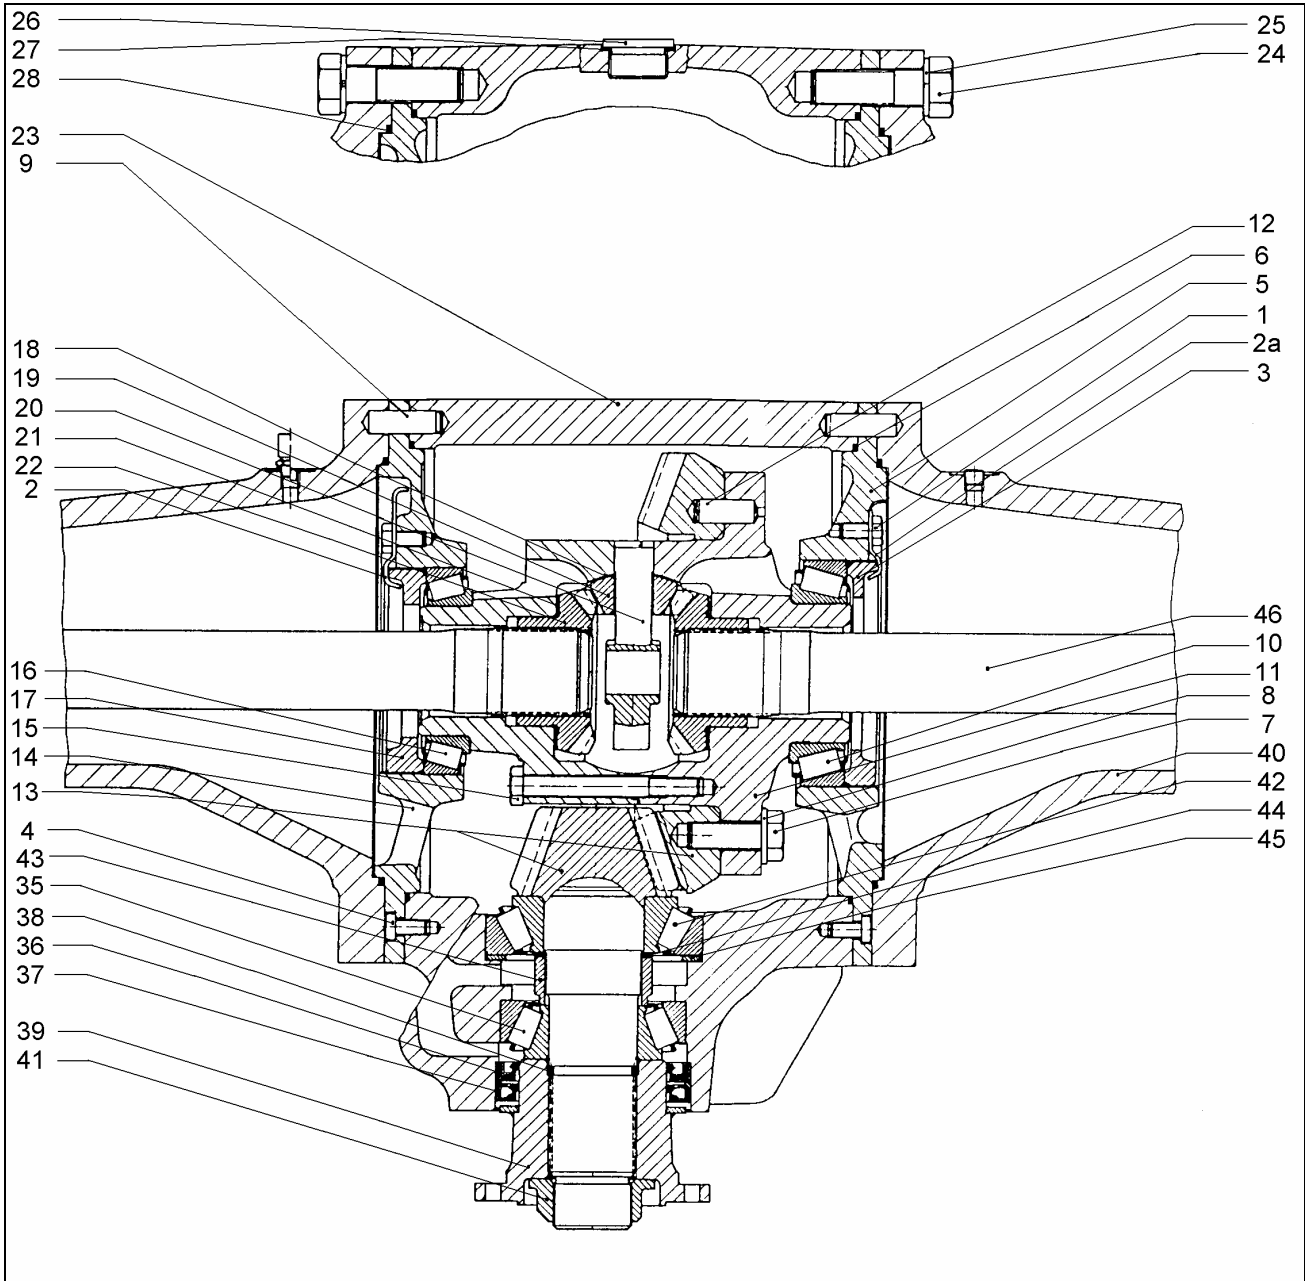

Fig. 5
(see Fig. 5; Page 12)
(see Fig. 5/ Page 12)
(see Fig. 5)
- Start to insert with selected spacer sleeve (No.43), then adjusting washer(s) (No.44) onto the pinion (No.13). (see Fig. 5).